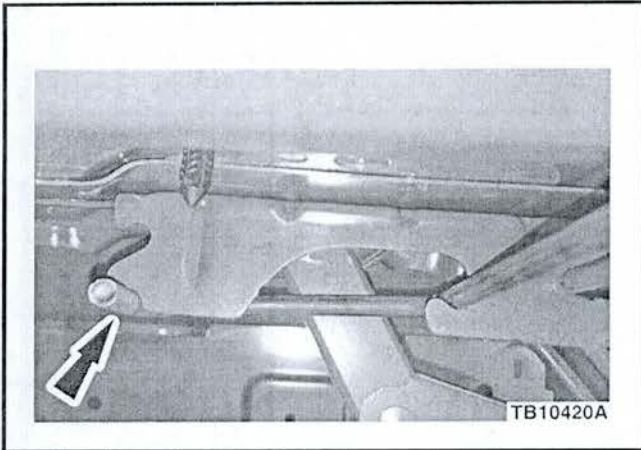

Figure 3 - Article 13-5-18
- a. Ensure torsion bars are installed in the lower notch. (Figure 3)